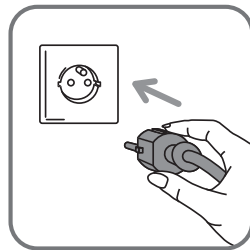

fig.6
- You can plug in your iron **fig.6**.